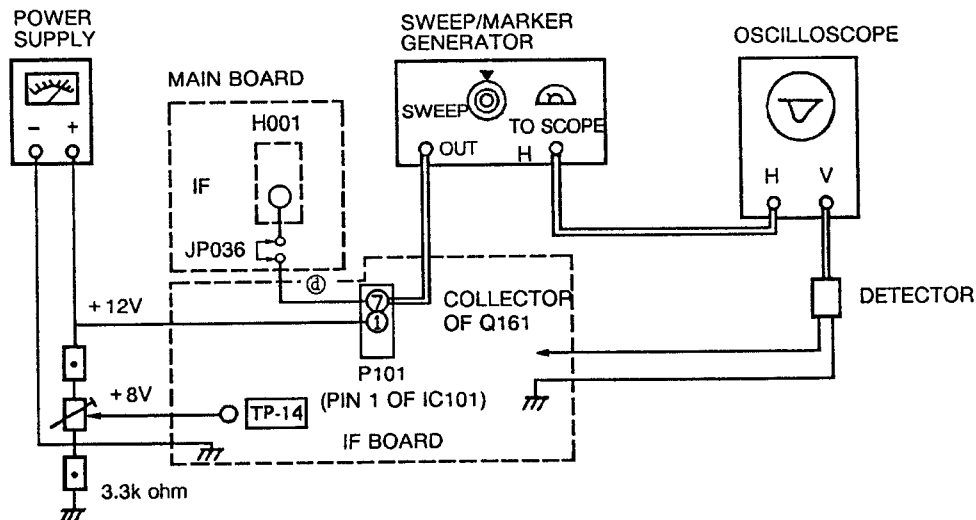

Figure 7. Picture IF Sweep Alignment
GENERAL ..... Refer to Figure 7 for the equipment connection.
1. Disconnect the jumper wire 036 (see Figure 7) on the component side of the MAIN Board.